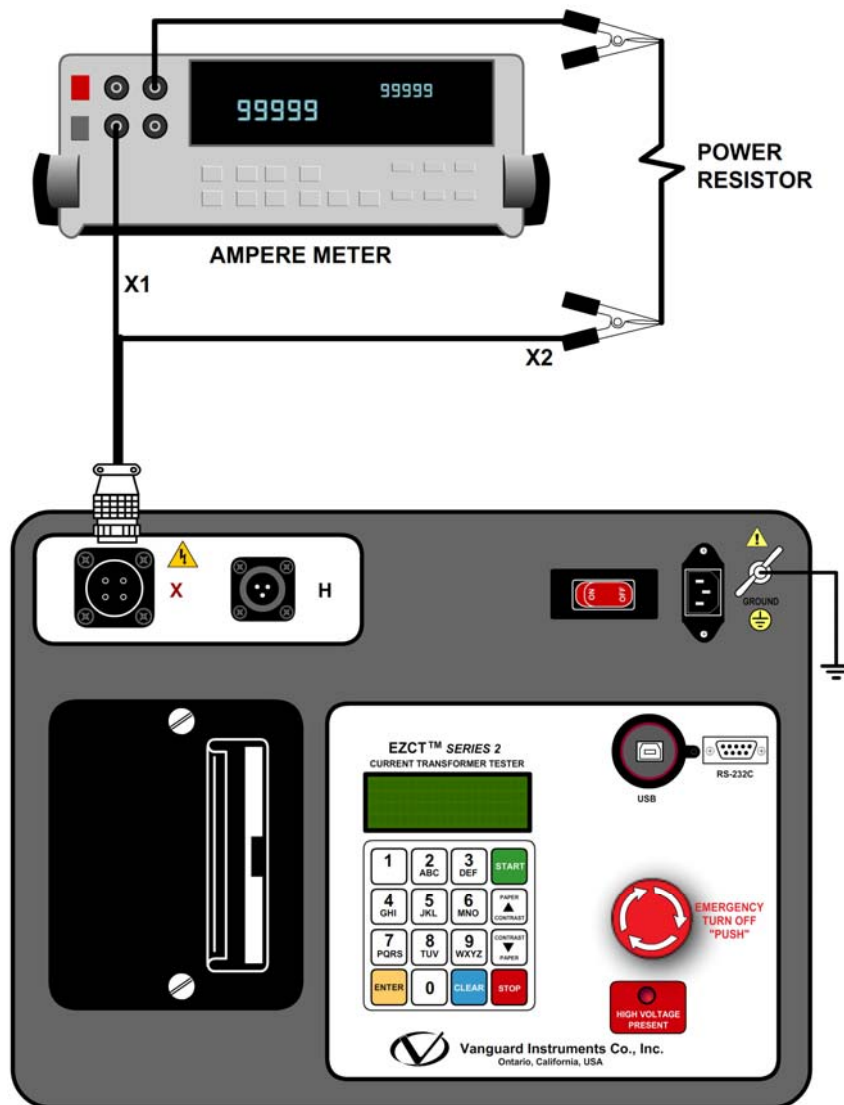

Figure 14. EZCT S2  $I_x$  Verification Test Connections
- Connect the X cables to a power resistor and an RMS ampere meter as shown in Figure 14.